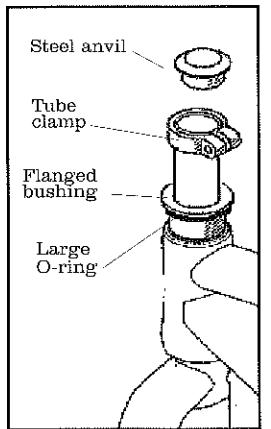

Fig. 12
1. Install the **large rubber O-ring** onto the **flanged bushing** (Fig. 12).